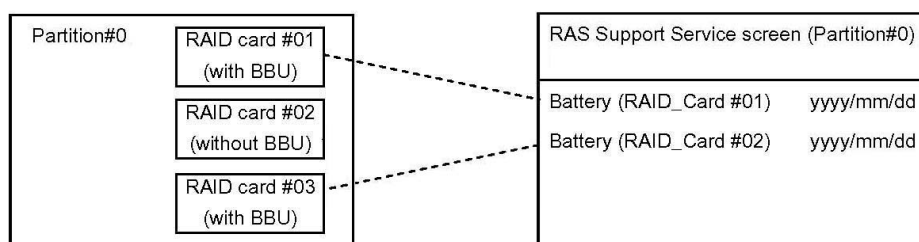

FIGURE 5.19 RAS Support Service screens (no BBU)
- Of the mounted RAID cards shown in FIGURE 5.19 RAS Support Service screens \(no BBU\), the RAID card without a BBU is not monitored by RAS Support Service.